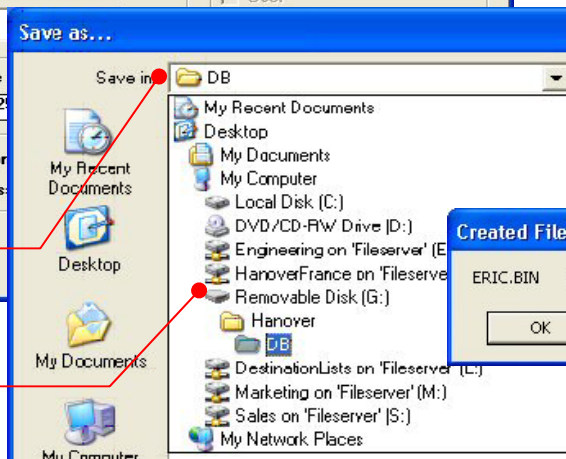
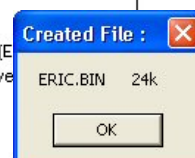

Figure 22
Figure 23
- Insert the USB stick into your computer and locate it. In Figure 22 it has appeared as example **Removable Disk (G:)**
- In the USB stick create a folder called '**Hanover**'. Open this folder and create another folder named '**DB**' (example Figure 22 below). When finished close window.
- Locate the '**DB**' folder within the USB stick (Figure 22) and click **Save**. A small Eric.Bin File window will appear (Figure 23) showing the file size. The USB stick is now set-up to automatically download to the DG3.